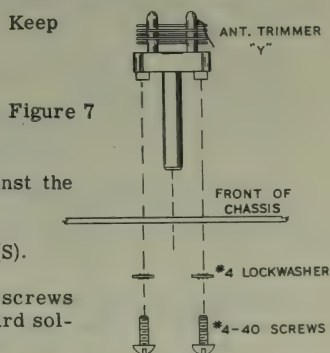

Figure 7
- (✓) Connect a 150  $\mu\text{f}$  mica capacitor from S3 (NS) to S1 (NS). Keep the leads short to avoid future movement of the capacitor.
- (✓) Connect a bare wire from S1 (S) to C4 (S).
- (✓) Connect a bare wire from S2 (S) to C2 (NS).
- (✓) Connect a wire from C2 (S) to W2 (S). Run this wire against the chassis.
- (✓) Connect a 33  $\mu\text{f}$  ceramic capacitor between C1 (S) and S3 (S).
- (✓) Mount the small antenna trimmer capacitor at Y using 4-40 screws and lockwashers. Position as shown. Bend lug 1 down toward solder lug FF so it touches the solder lug (NS). See Figure 7.